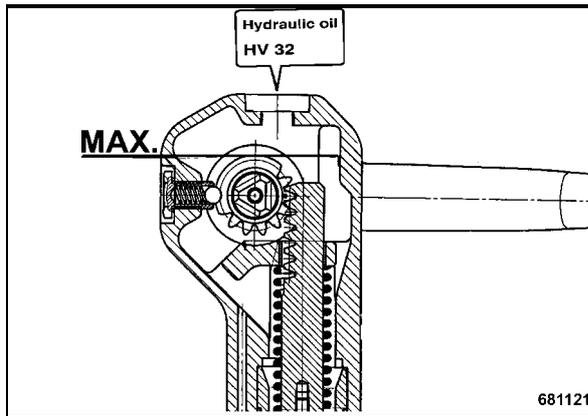

Fig. 77
- The hydraulic oil must reach the upper edge of the splined shaft, top up if necessary (Fig. 77).